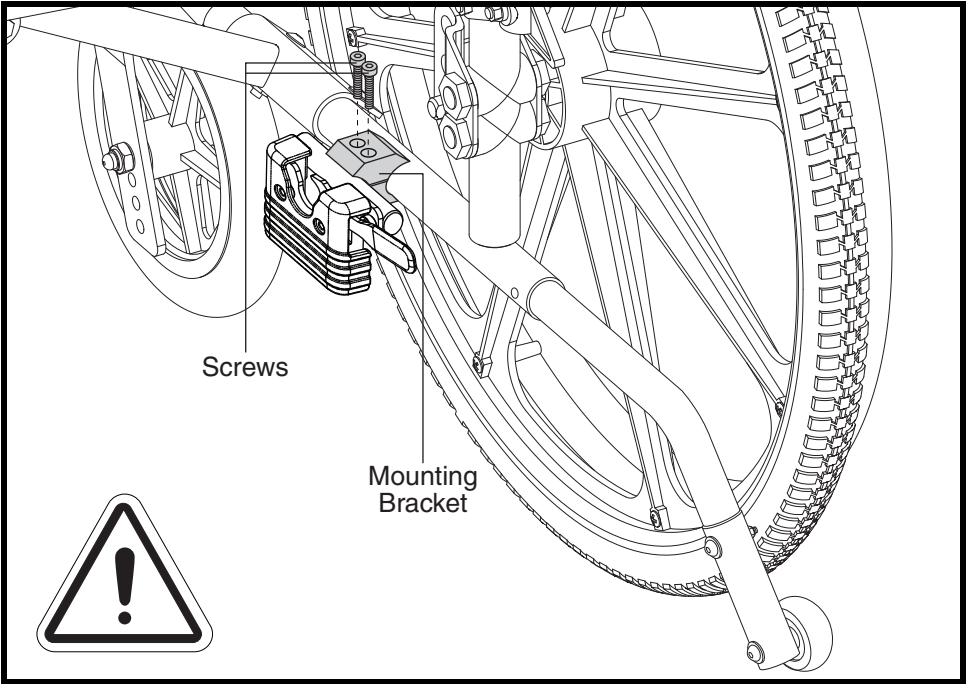

Figure 2. Mounting Bracket Installation
2. Install a mounting bracket to the bottom of each side of the wheelchair frame and tighten the hardware. Keep both of the mounting brackets at the same axle position on each side of the frame. **See figure 2.**